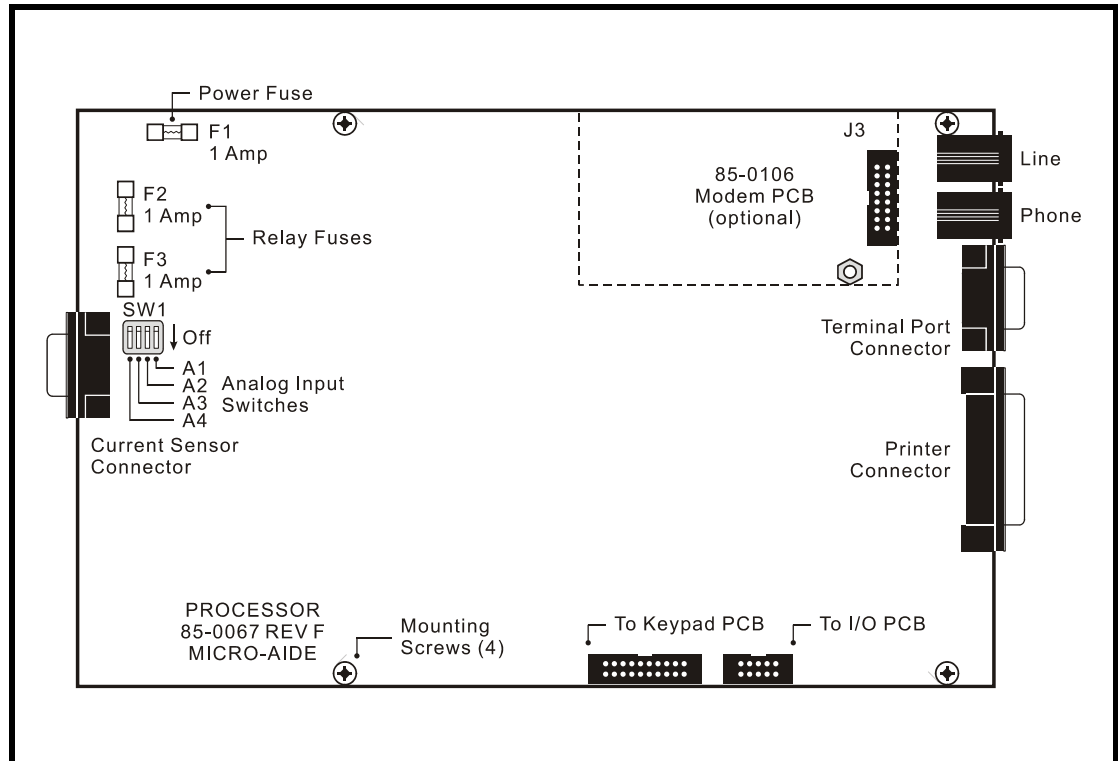

Figure 6 - CWR-72 Processor PCB
There is a single DIP switch assembly mounted on the Processor PCB. It is referred to as the Analog Input Switch and is labeled “SW1”. The DIP switch assembly contains four switches. Labeling on the body of the switch assembly indicates the on and off positions for each switch. Refer to Figure 6 on page 87 to locate the described switch.
2. Locate the sixteen-pin male connector labeled “J3 MODEM” near the upper right-hand corner of the Processor PCB. The modem connector is illustrated in Figure 6 on page 87.